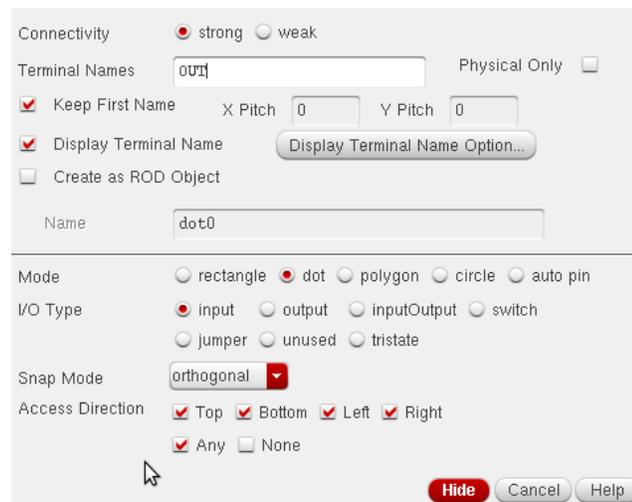

Figure 5: Creating pins.
3. Create pins according to your schematic from “**Create > Pin**”. Make sure that in your LSW window, you have **metal1** selected, and follow figure 5 to add the pins. Also, click on Display terminal name, and in the newly opened window, select **metal1** as layer. You have to click 3 times to add any pins.